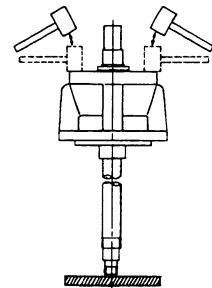

Fig. 8
- (10) Remove fan key ⑱.
- (11) Remove bearing box (outlet side) ⑲ from fan case (A) ④. At this time, shaft ⑰ should come off together with bearing box (outlet side) ⑲.
- (12) Remove bearing retaining cap ⑳.
- (13) (MLC-581,701, GLC-585,705) Remove cooling fan ㉓.
- (14) Lay a wood-block on the floor and stand shaft ⑰ on top of-it in an upright position. (Fig.8)
- (15) Remove bearing box (outlet side) ⑲ from bearing ㉒ by tapping outside uniformly with plastic hammer.
- (16) Remove bearing nut ㉔ and bearing washer ㉕.
- (17) Remove bearing ㉒ from the shaft ⑰ using a puller.